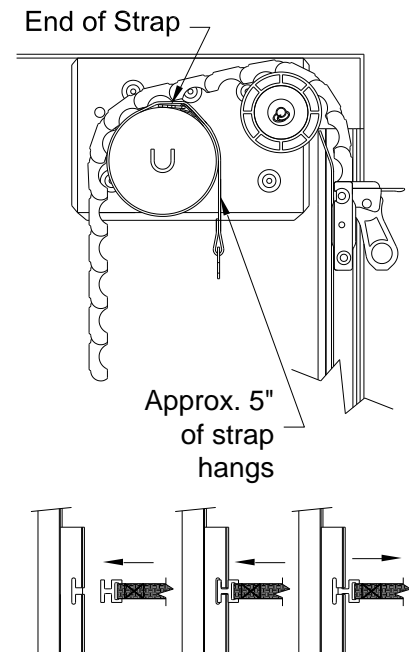

Fig. 5
b) Let the straps hang as shown in Fig. 5. Straps should wrap around the operator diameter approximately 1-¼ times, then drape down approximately 5”.
a) Feed the top slat of the shutter over the nylon rollers and operator as shown in Fig. 5. Let the curtain hang behind the operator. Gravity should hold the curtain in this position the bottom rail against the header.